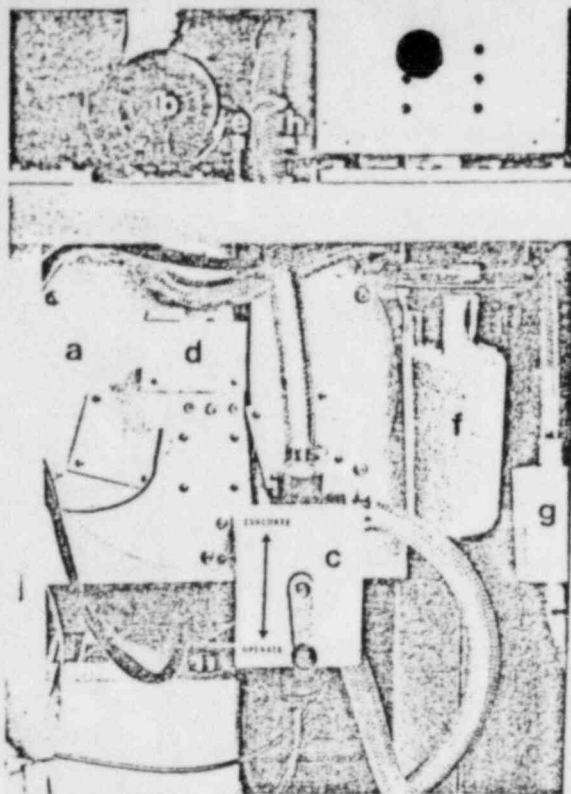

Figure 3. Ventil-Con, internal.
1.2.2 Spirometer - The ten-liter capacity dry spirometer is constructed of spun aluminum and the entire airway plumbing is fabricated of non-corrugated, smooth-surface PVC. The spirometer is mounted horizontally on extremely low friction linear roller bearings which allow the patient to breathe normally without any external inducement or resistance. Measure resistance is 0.2 inches of water under normal breathing condition. Also, since up to 70% of the total activity in the Ventil-Con will be in the spirometer it has been totally enclosed with lead sheet. (See Figure 3.)
**1.2.3 Recirculation Pump (Figure 3)** - This is a continuous duty "flame isolated" pump motor which insures a completely homogeneous air/gas mixture. The pumping capacity and head configuration is designed in such a way as to offer no resistance to patient breathing in addition to providing gas flow direction. "Flame isolation" is necessary since O2 is continuously added to the system during the study. It is achieved by magnetic rather than mechanical coupling between the pump and drive motor.
**1.2.5.1 Volume** - Spirometer volume is a direct function of the rolling diaphragm position and can be related to various lung parameters through numerical analysis. Spirometer position on the Ventil-Con is determined by a cable driven potentiometer mounted to the spirometer housing above the Evacuate/Operate valve. (See Figure 3.) The signal from the potentiometer appears as volume (in liters) on the volume meter on the control panel. (See Figure 2.)
1.2.6 Oxygen Replenishment Mechanism - Because  $O_2$  is extracted from inhaled gases and replaced by  $CO_2$ , it is necessary that any closed breathing apparatus provide for the addition of sufficient  $O_2$  to maintain the proper oxygen concentration. The Ventil-Con has three modes of oxygen replenishment, MANUAL, AUTOMATIC and EMERGENCY ASSIST. (See Figure 2.) The oxygen supply is connected to the  $O_2$  supply tube which carries the  $O_2$  to a solenoid. (See Figure 3.) This solenoid acts like a faucet which, when opened, releases a predetermined volume of  $O_2$  into the airway to be homogeneously mixed with the gas/air mixture already circulating. The volume of  $O_2$  released into the system is matched to the individual patient's consumption rate and is set by adjusting the oxygen control knob on the control panel. (See Figure 2.) The Emergency Oxygen Assist is activated by a pushbutton next to the head valve. It is an entirely separate system from the Automatic/Manual and releases  $O_2$  directly into the head of the unit allowing immediate patient relief.
1.2.7 Carbon Dioxide Adsorber - A soda lime  $CO_2$  trap is employed in the system to remove patient expired  $CO_2$ . The trap is rechargeable and is found to the right of the Evacuate/Operate Valve. (See Figure 3.)
The filter will be found attached inline directly to the right of the Evacuate/Operate Valve. (See Figure 3.)